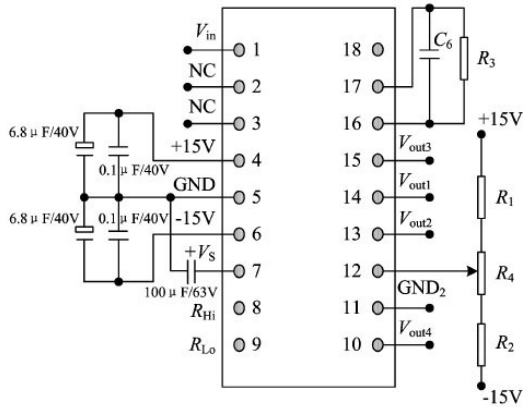

Fig. 5 Connection diagram for typical application
8. Connection diagram for typical application (Fig. 5)
Connect the circuit according to Fig. 5, C_6 and R_3 are the feedback elements of DC amplification stage in the circuit. R_3 can take 20K Ω . R_1 , R_2 and R_4 are used for zero adjustment of the system.